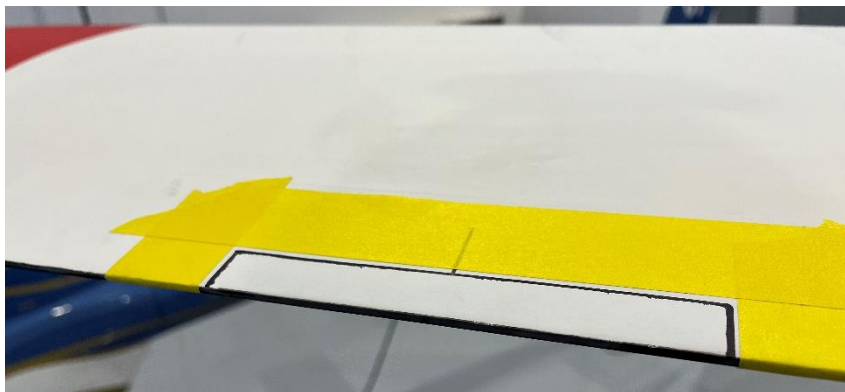

Figure 9: Install masking for surface preparation
2. Remove the wedge and use masking tape to mask 1/16 to 1/8-inch outside of the marker line. See Figure 9.